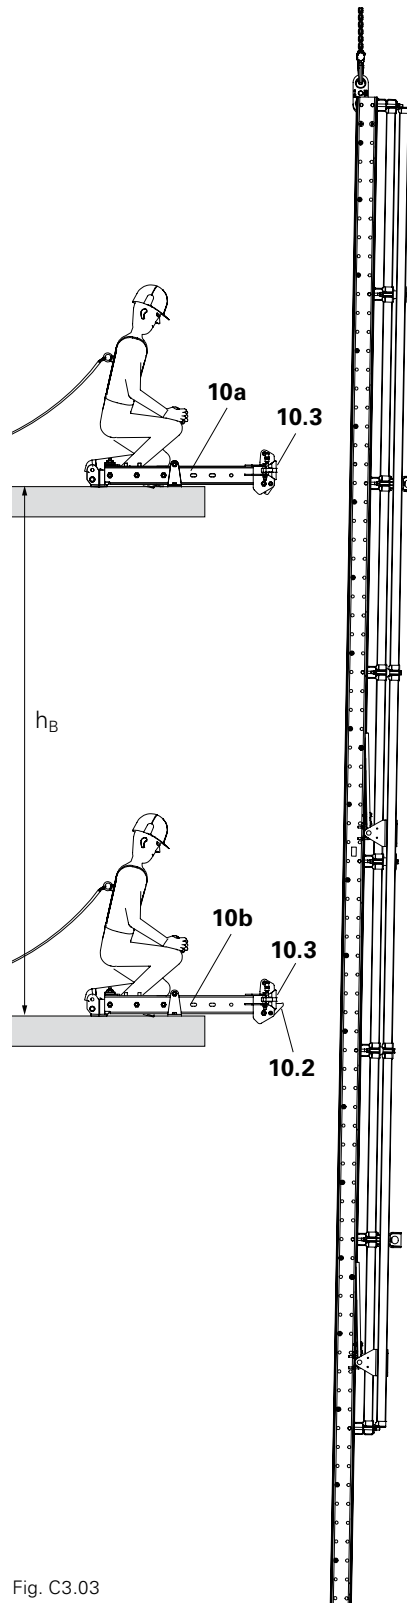

Fig. C3.03
5. Lock the climbing pawl (10.2) of the top Slab Shoe (10b), in order to prevent inadvertent locking into place, in the event  $h_B = n \times 50 \text{ cm}$ . See Section "Activating and Deactivating the Climbing Pawl" on Page 113. (Fig. C3.03)